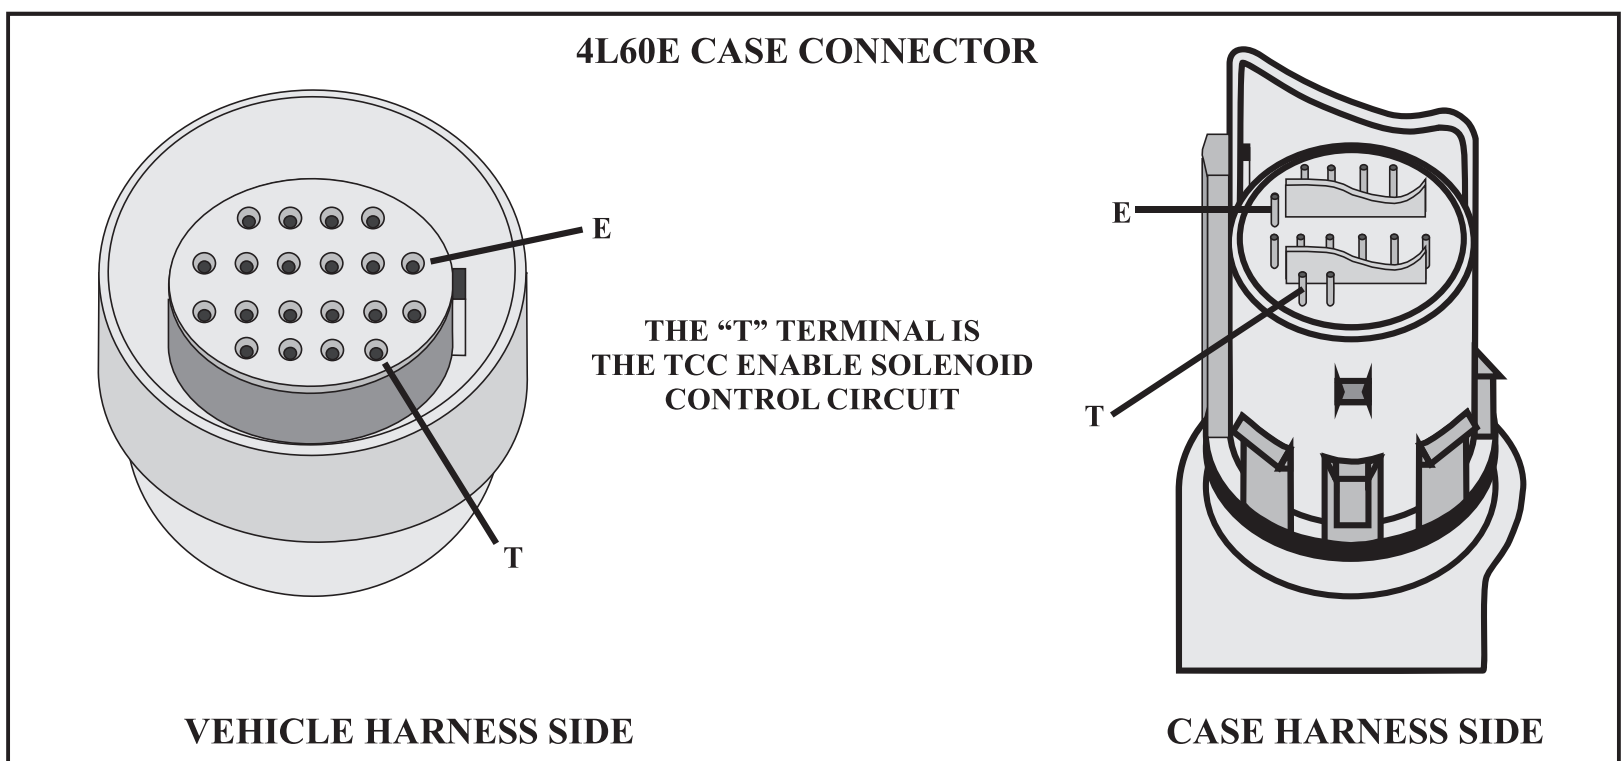

Figure 109
- A faulty ignition switch, Causing intermittent power loss to case connector terminal “E”, See Figure 109 for terminal “E” location. (Other solenoid codes should be stored, use relay harness to bypass ignition switch as shown in Code 81,82, P0753 & P0758 diagnostics.
- Damaged terminal ends, Refer to Code 81,82, P0753 & P0758 diagnostics on how to check terminal cavities, See Figure 109 for terminal”T” location.